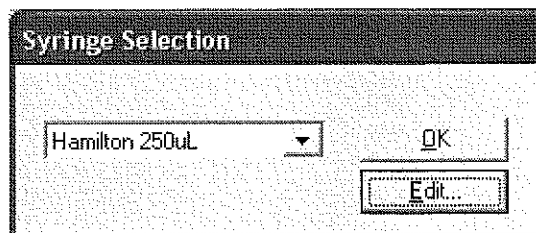

Figure C-3 Syringe Selection Dialog Box
1. Select Options > Syringe Type to open the Syringe Selection dialog box (Figure C-3).